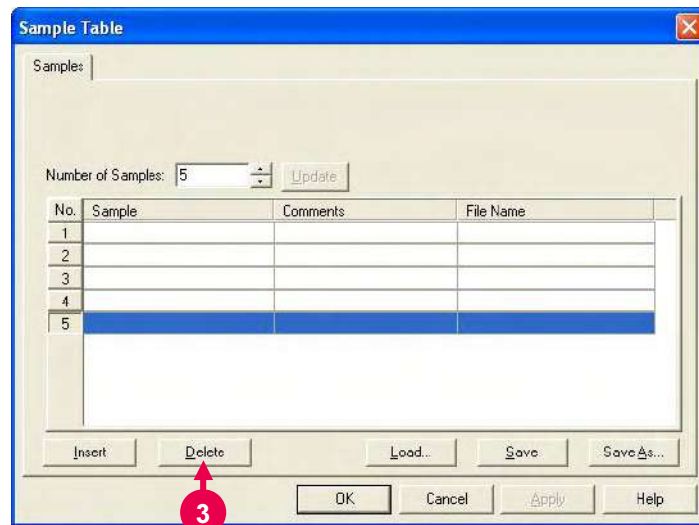

Fig. 3-12
- 3 To delete an unnecessary row, click its row No. to make it active as shown in Fig. 3-12. Then, click the **Delete** button.